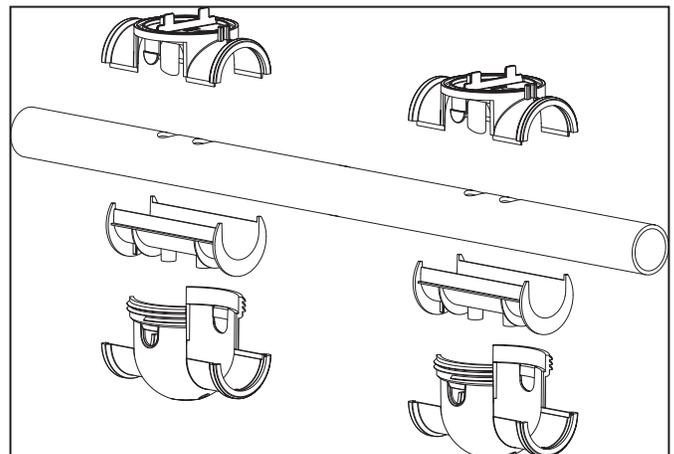
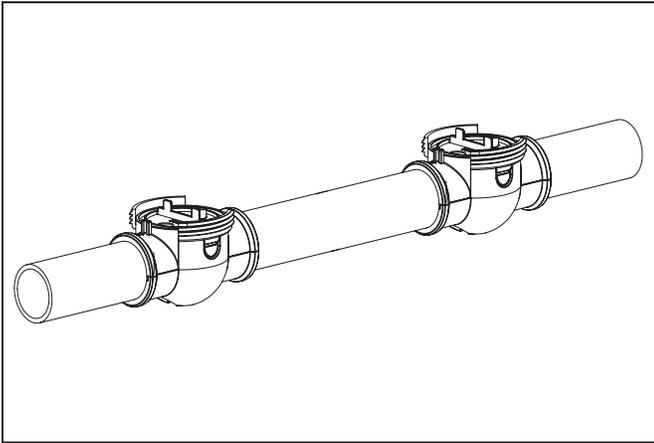

Figure 9. Cell Clamps
Figure 10. Cell Clamps Attached
- Secure the clamps, pipe spacer, and gasket around the pipe as shown (see Figure 9) making sure the flow arrows on the clamp point in the direction of the water flow (see Figures 10 and 11). Make sure the two (2) clips on the sides of the clamp are snapped into place.